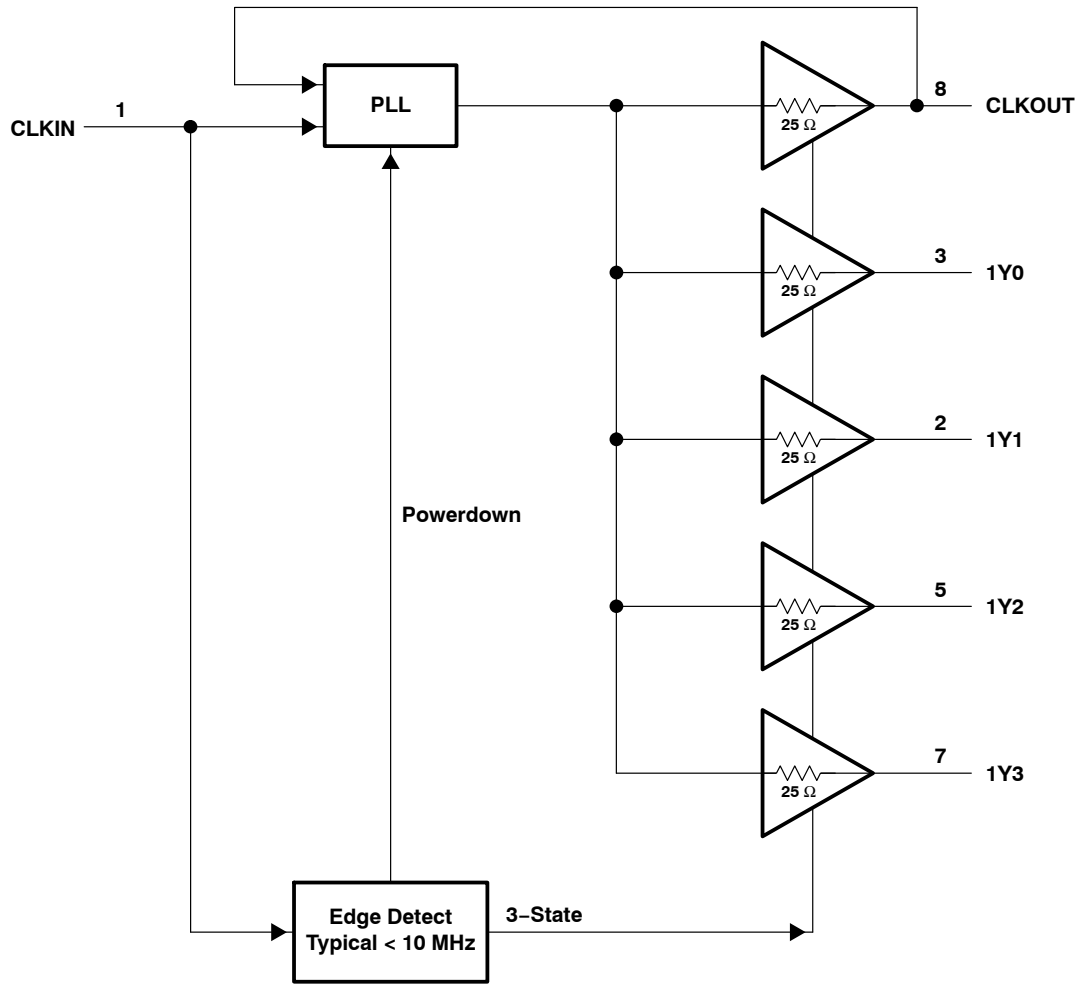
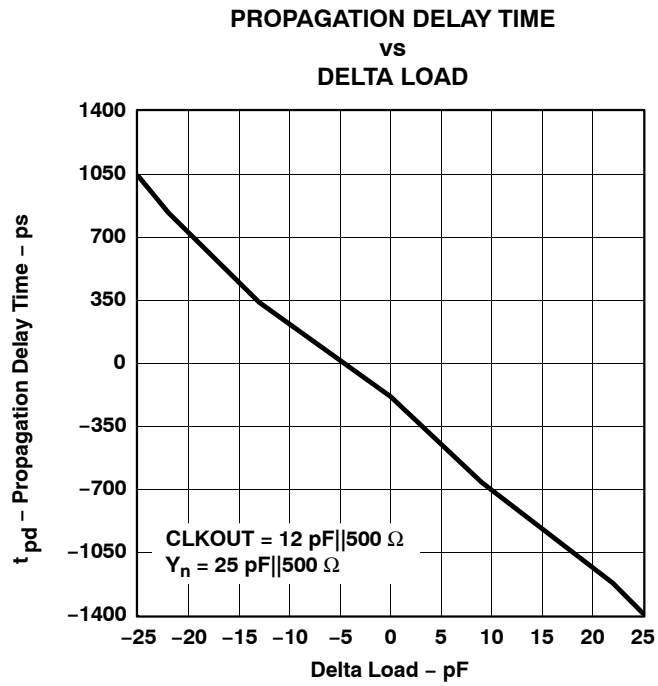

Figure 1. Functional Block Diagram of CDCVF2505
Figure 2. Delay vs Delta Load
As shown in Figure 1, the CLKOUT pin (8) completes the feedback loop of the PLL. This connection is made inside the chip and external feedback is not required. However, CLKOUT can be loaded with a capacitor to adjust the input-to-output propagation delay. Depending on the application and the delay requirements, the designer can choose two capacitor values between 5 pF and 25 pF on CLKOUT to determine the exact propagation delay between CLKIN and Y_n. Native propagation delay as a function of delta load (the difference between the CKLOUT and Y_n loads) is shown in Figure 2.